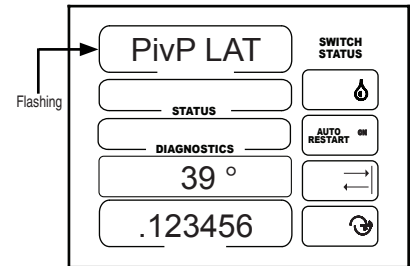

Figure 47-1
1. PivP LAT should be flashing. Default latitude is 90°. See figure 47-1.